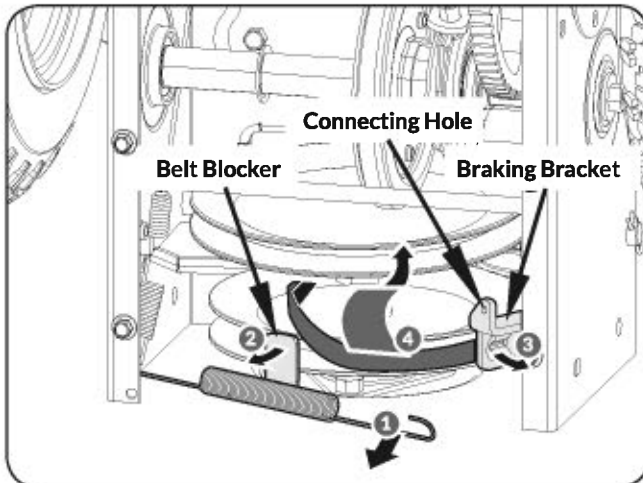

Figure 20d
- Release the spring from the connecting hole in the braking bracket. Bend the belt blocker a bit and move the braking bracket away from the belt. Remove the belt from around the auger pulley, and slip the belt between the support bracket and the auger pulley. (See **Figure 20d**)